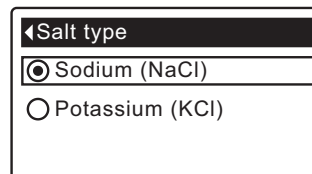

FIG. 33
5. Press the SELECT (O) button to display the Salt type menu (See Figure 33).
6. If the desired salt type already has a black dot next to it (See Figure 33), go to Step 7. Otherwise, press the softener’s DOWN (▼) or UP (▲) buttons to scroll to the other salt type, then press SELECT (O) to choose it.
7. Press the SELECT (O) button. The display will go back to the Salt settings menu.